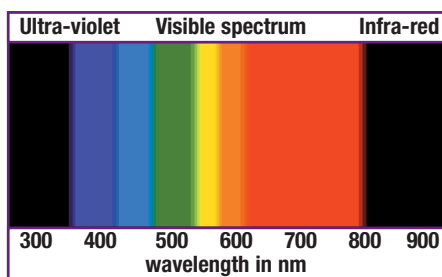

Figure 1: The spectrum (*spectrum representation is diagrammatic*)
The spectrum of electromagnetic waves includes the visible part of the spectrum as well as many other waves such as microwave, radio, x-rays, ultra-violet (UV) and infra-red (IR) (Figure 1).